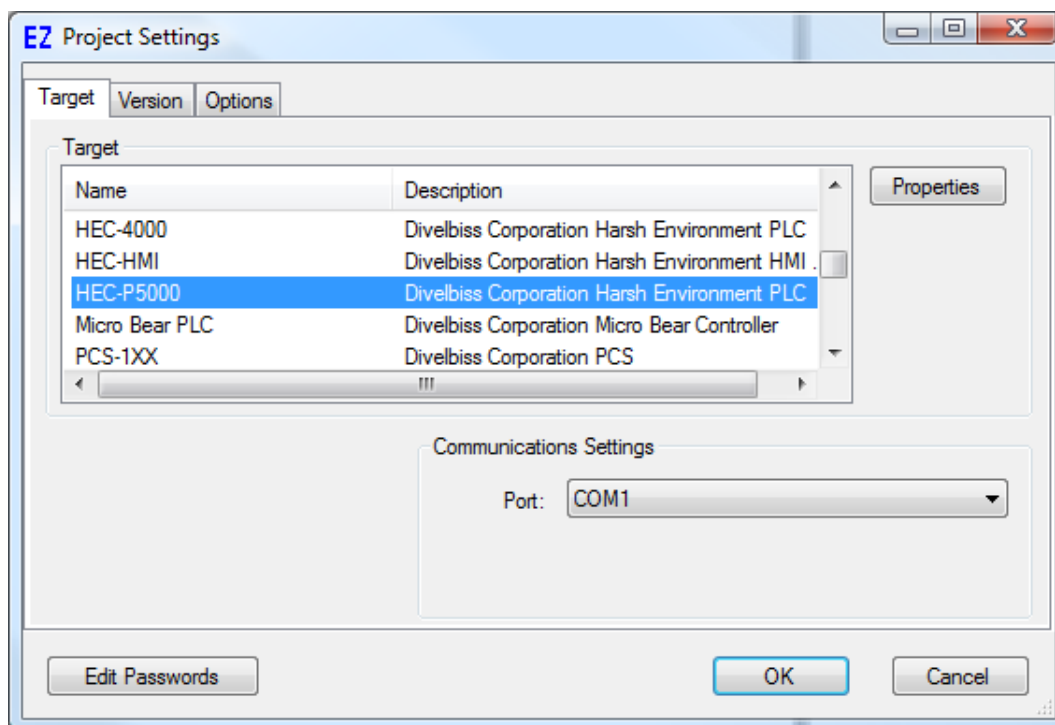

Figure 1.1 - Project Settings Window
1. In EZ LADDER, from the File Menu at the top, click **PROJECT** then **SETTINGS**. This will open the Project Settings Window. Select **HEC-P5000** as the target from the choices. Refer to Figure 1.1. Verify the correct COM Port is selected.